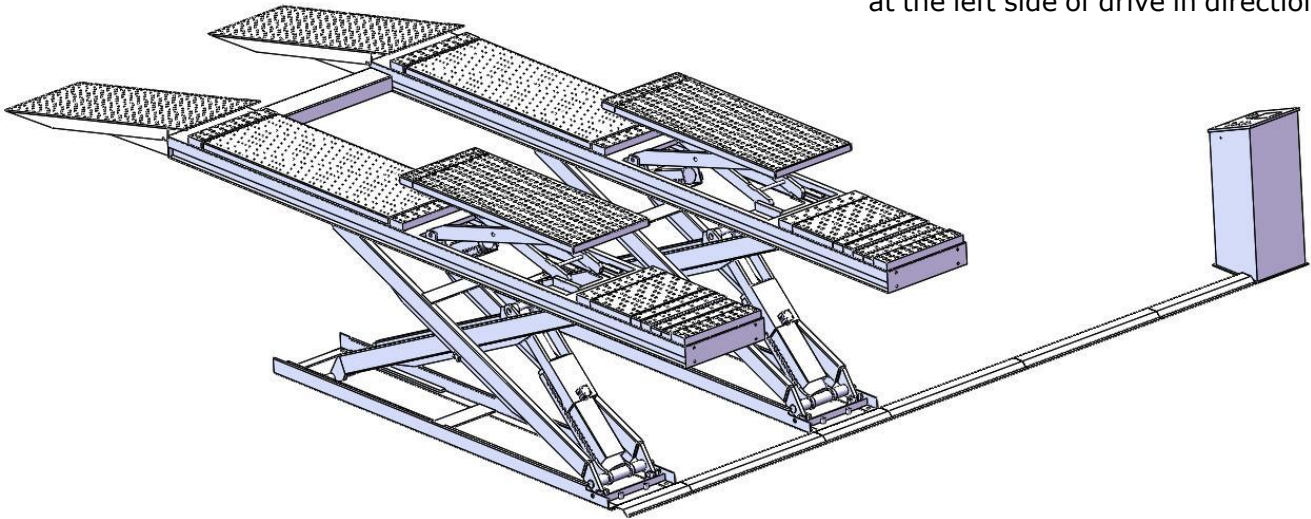

Fig. 4
1.2 Illustration of DX-5500A on surface installation (See Fig.4).